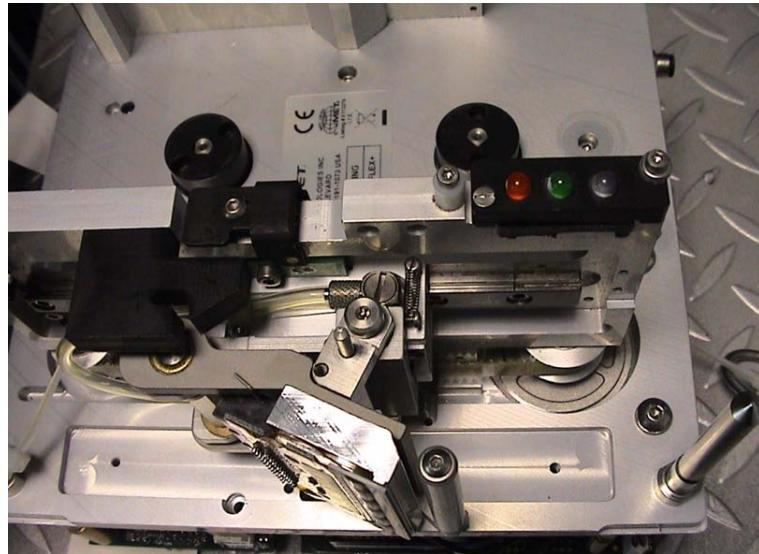

Figure 5-30: Printhead Carriage
- 3 Move the printhead carriage to a middle position so that it is not parked (refer Figure 5-30).